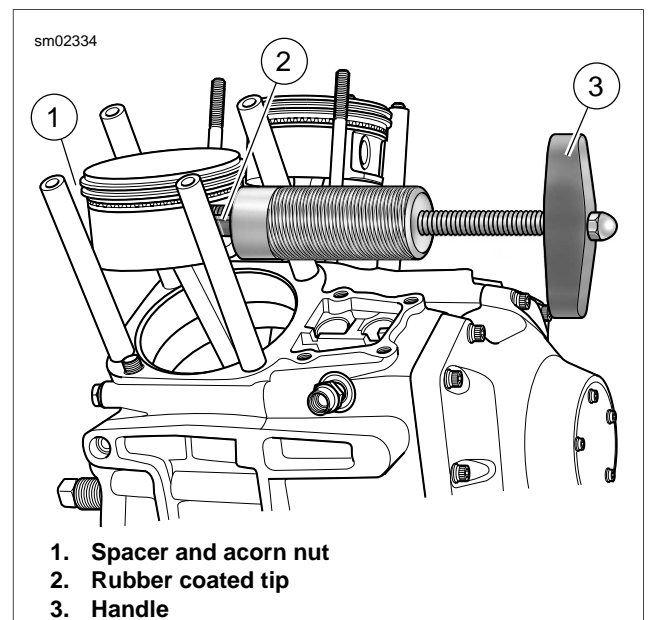

Figure 3-29. Piston Pin Remover (Part No. HD-42320-A)
3. See Figure 3-29. Remove the piston pin. If piston pin is difficult to remove, use PISTON PIN REMOVER (Part No. HD-42320-A).
- b. Slide rod end through piston pin. Install spacer and acorn nut (1) on end of rod.
- c. Position rubber-coated tips (2) of tool on flat each side of pin bore.
- d. Turn handle (3) in a clockwise direction until piston pin is pulled free of bore.